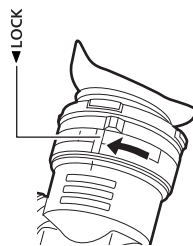

Fig. 2
- 2 Turn the lock ring clockwise securely to the <LOCK> position. (Fig. 2)